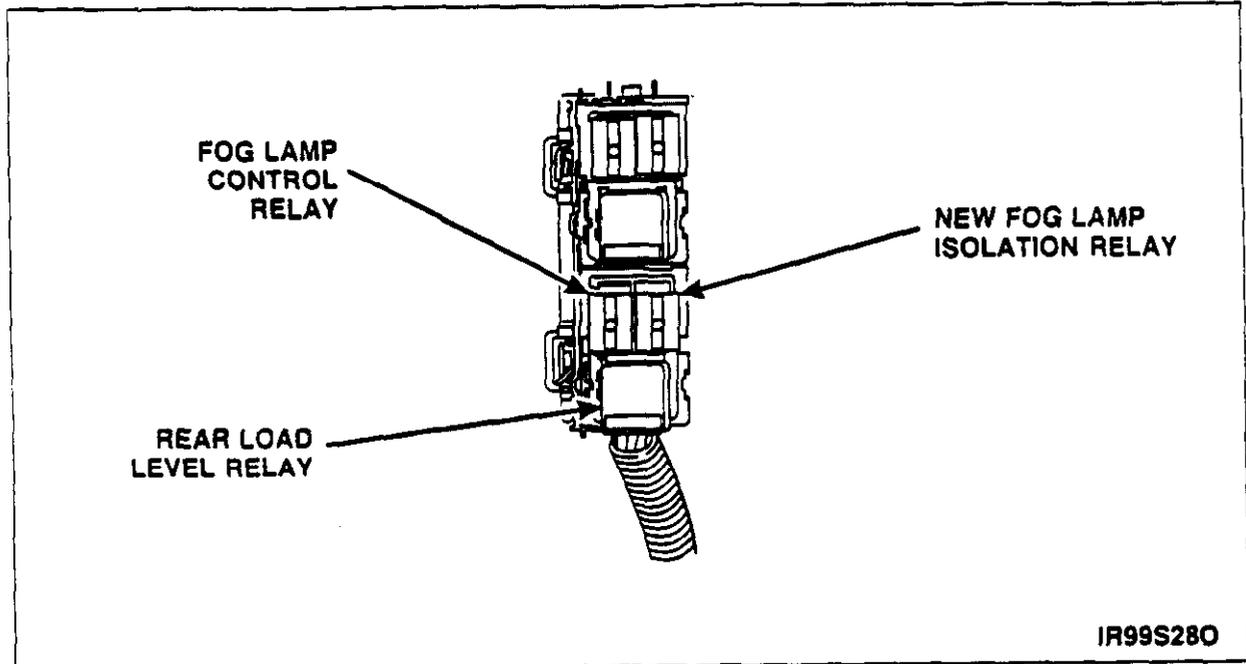

FIGURE 15
14. Install the red locking wedge, then install the fog lamp control relay and the rear load level relay. Install the *new* fog lamp isolation relay provided in the kit. See Figure 15.